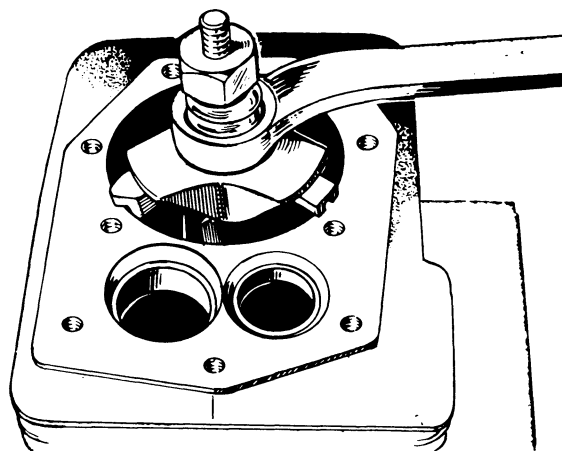

FIGURE 29. REMOVING RIDGE FROM CYLINDER
3. Remove the ridge from the top of each cylinder with a ridge reamer before attempting piston removal (Figure 29).